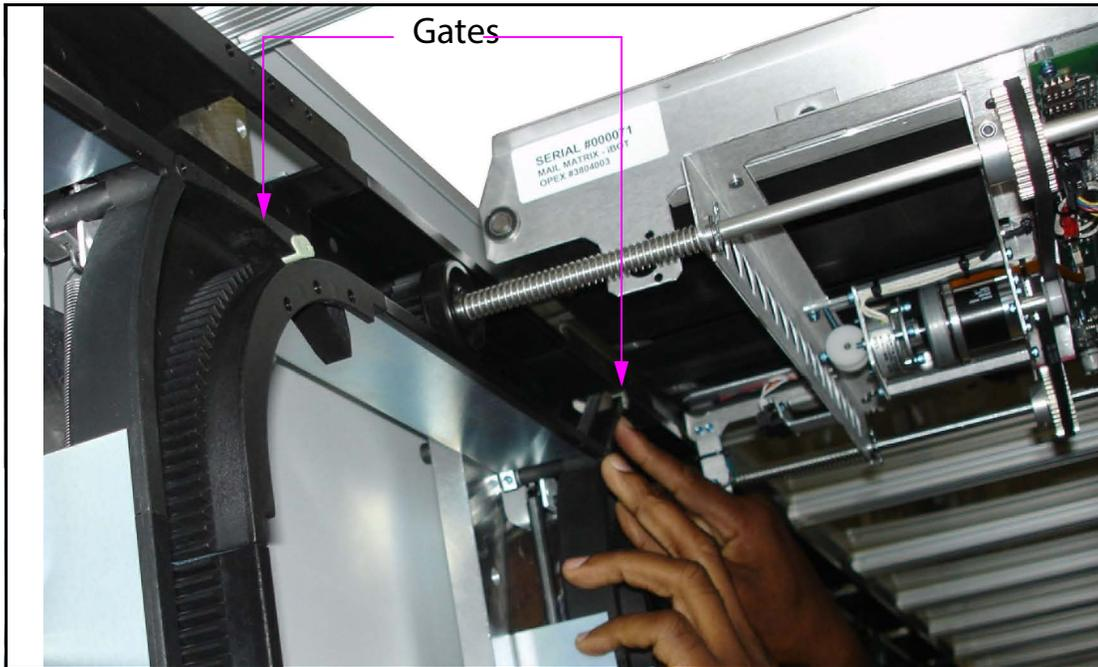

Figure 67: Maneuvering the iBOT into the delivery column
- b. Open the gates (Figure 67) to move the iBOT down (or up) into the column. Proceed to step 3 on page 89 when you have the iBOT in the loading column.